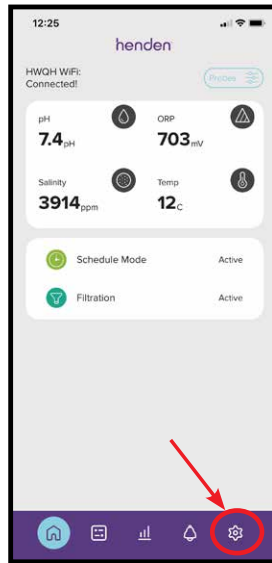

Figure 10.0
- From the dashboard of the Henden Smart Chlorinator App, press “probe settings” (refer figure 10.0)